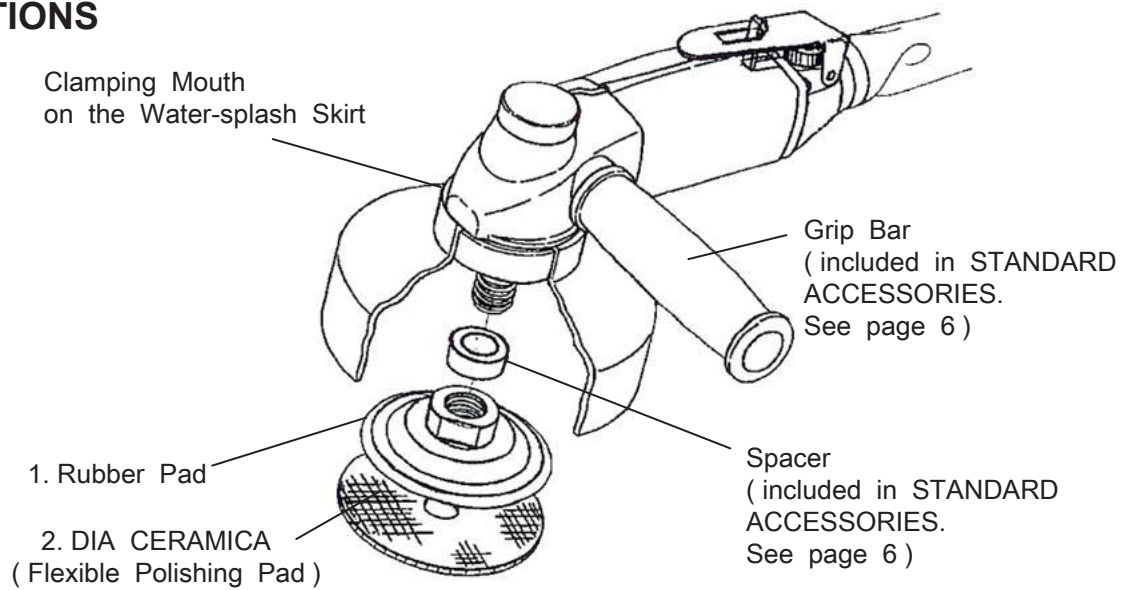
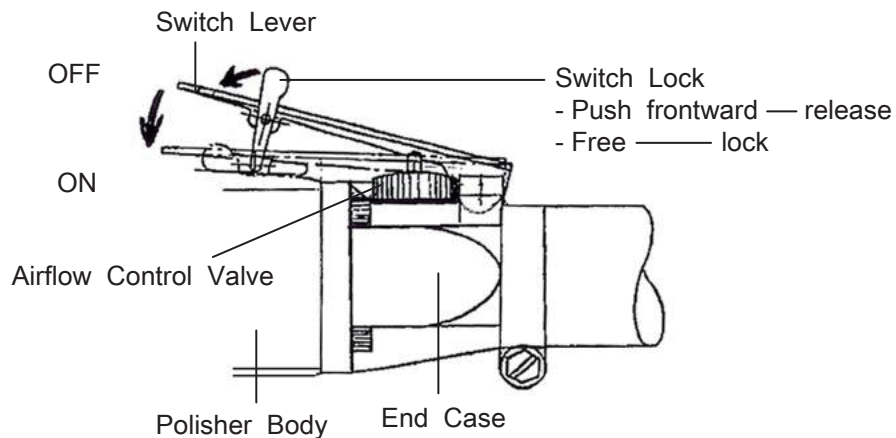

Figure 4 Options
Figure 8 Switch Operations
- (1) Select a proper size of water-splash skirt according to TABLE 1 in page 6
- (2) Install the water-splash skirt on the polisher body while expanding the clamping mouth (see Figure 4, page 7) of water-splash guard from inside with fingers so that the clamping mouth fits onto the circumference groove (see Figure 2, page 6) on the polisher body
- (1) Make sure that the grip bar is screwed in firmly on the polisher body.
- (2) Adjust the pressure of the compressor at 0.4MPa. Higher pressure makes higher speed of polisher, which is not recommendable for this function test.
- (3) Hold the grip bar (see Figure 4, page 7) by one hand while pushing the switch lock by a finger of another hand. Then, push the switch lever down to turn ON. Release the finger from the switch lever to turn OFF while holding the grip bar and the end case by the hands. The polisher is stopped automatically and immediately. In addition, the switch lever is locked by the switch lock automatically (see Figure 8, page 16).
Before connecting the air hose to the compressor, ensure that the polisher is locked at OFF position. Or, it would cause sudden start of the polisher. This is very hazardous. When putting the polisher on floor or worktable, make sure to turn the switch lever to OFF position (see Figure 8, page 16).